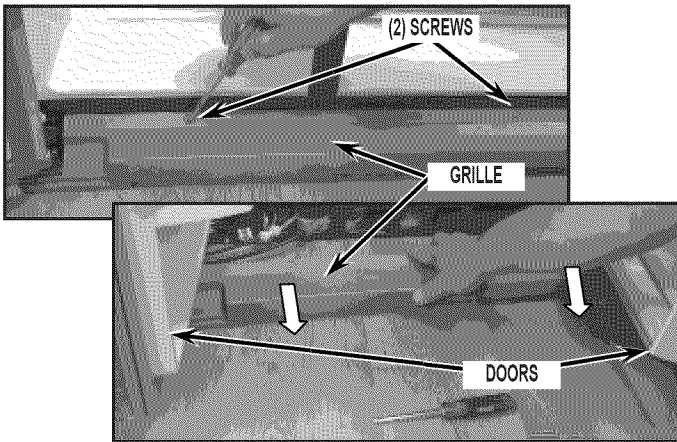

FIGURE 1
2. Remove the grille by removing two (2) screws and opening the doors to 90 degrees. See *Figure 1*.